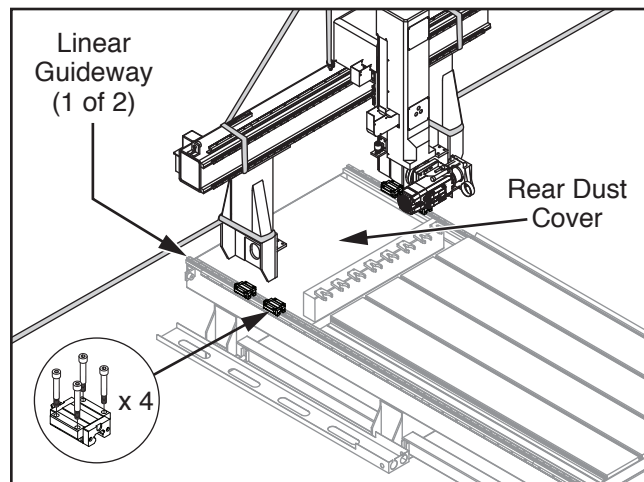

Figure 32. Gantry positioned over rear dust cover area and linear guideways.
7. Center gantry over rear dust cover area of CNC router base and position gantry columns directly over linear guideways (see **Figure 32**).
8. Have spotters/installers remove (4) pre-installed cap screws from (4) guideway carriages, then position guideway carriages under gantry columns (see **Figure 32**).